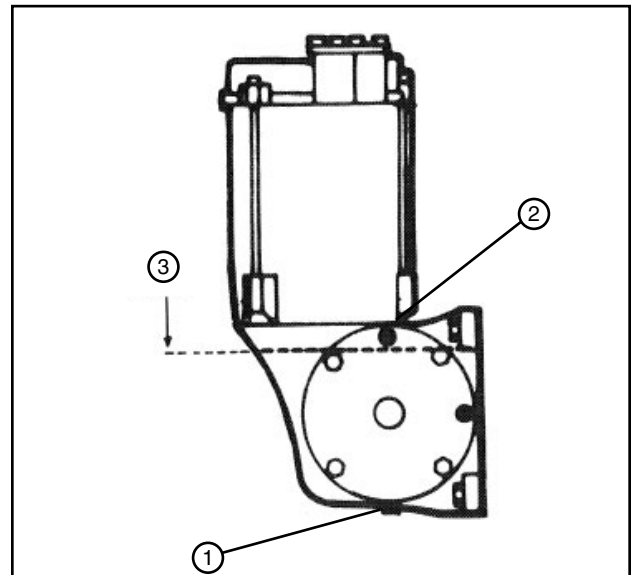

Figure 87-3 1. Drain Plug
1. Remove the drain plug and the fill plug. Drain the oil and install the drain plug. See figure 87-3.
2. Fill the gearbox to within 1/2 in (12.7 mm) of the bottom of the fill plug hole with Valley Gear Lube. The capacity of the gearbox is approximately 1 quart (0.9 liter). See figure 87-3.